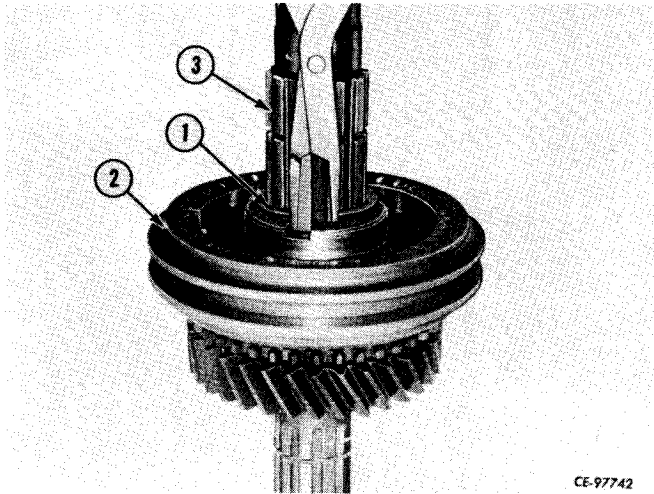

Figure 4-49
Install assembled 1st and 2nd gear collar (2, Fig. 4-49) on main shaft (3) and install snap ring (1).